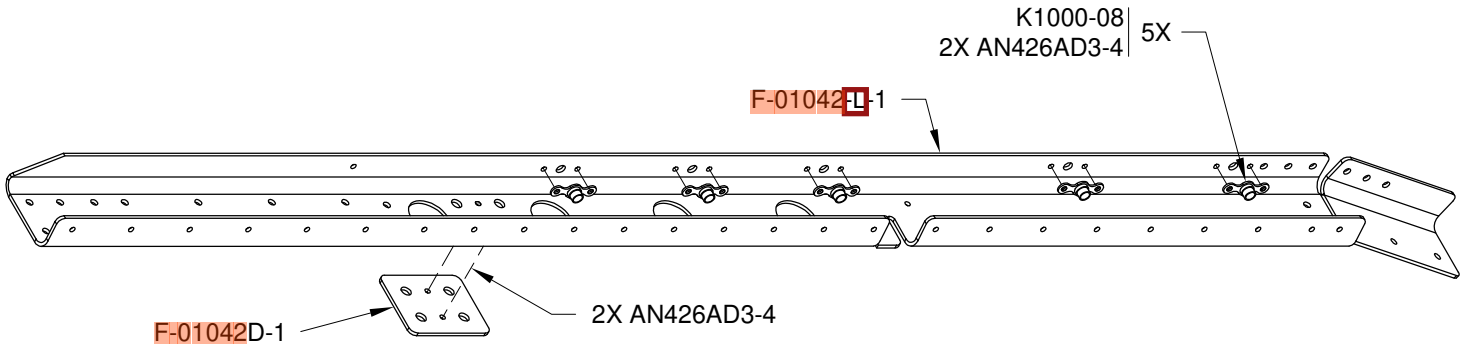

FIGURE 3: BULKHEAD SIDE CHANNEL NUTPLATE INSTALLATION
Step 3: Machine countersink the F-01042D-1 Spacers and the nutplate attach holes in the F-01042-L-1 & F-01042-R-1 Bulkhead Side Channels for the head of an AN426AD3 rivet. See Figure 3.
Step 5: Install nutplates to the F-1043C-L and F-1043C-R Attach Angles as shown on Page 28-2, Figure 3.